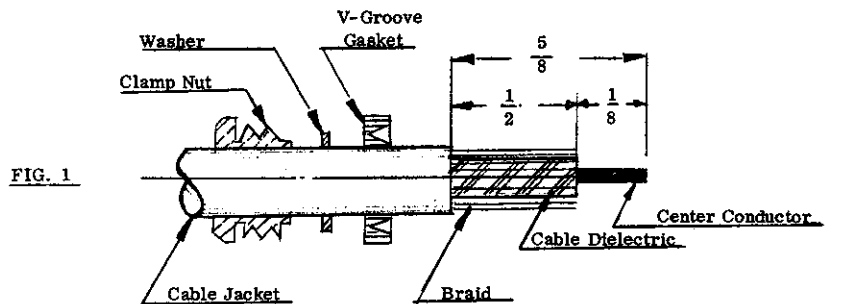

FIG. 1
1. Slide clamp nut, washer and V-groove gasket over cable as shown in Fig. 1.
2. Remove cable jacket to dimension shown; do not damage braid. Comb out braid wires, then fold back and make dielectric cut. Do not nick center conductor (Fig. 1).